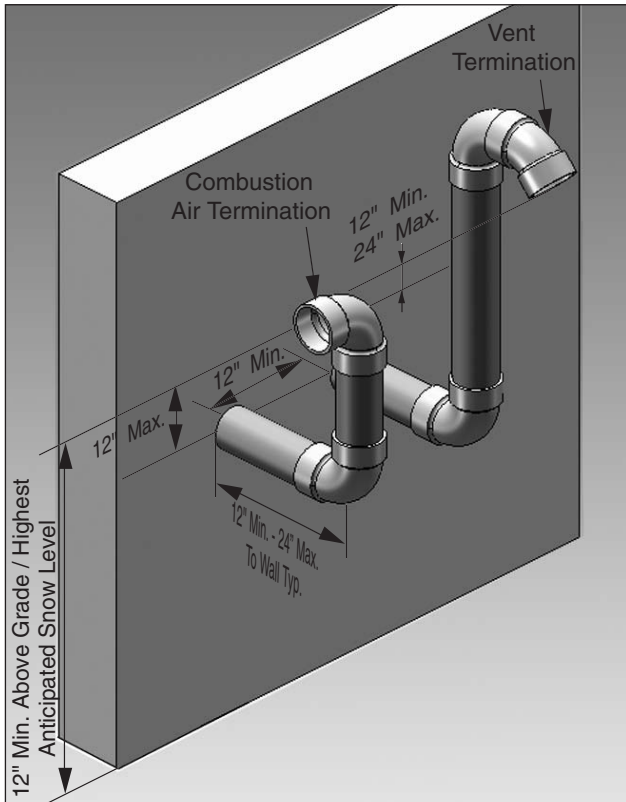

Fig. 12: Direct Vent - Sidewall Snorkel Termination of Vent and Combustion Air Piping with 45° Vent Termination
- Using a 45° elbow as shown in Figs. 12 or 15, page 12.
- Using a 45° elbow as shown in Fig. 12 or 15 page 12.